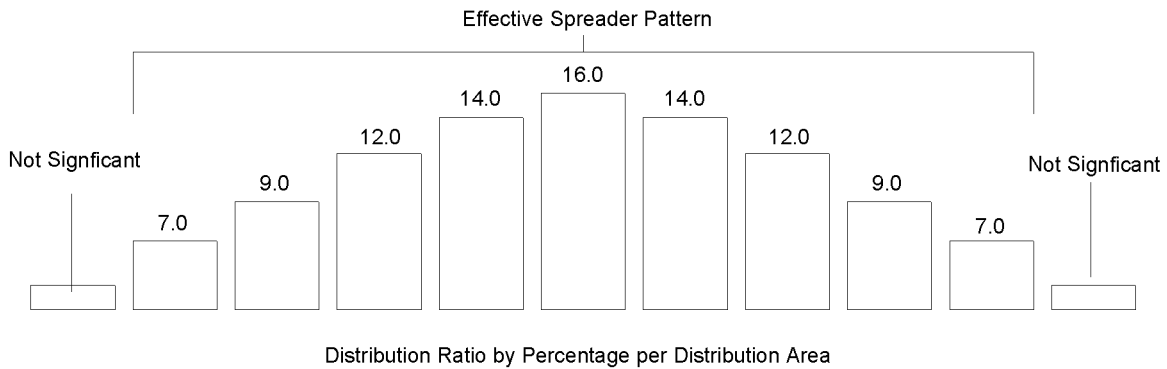

Figure 12. Spreader Material Distribution Ratio
- (6) Check the distribution pattern.
- (a) Place 11 calibration pans in a line on two-foot centers on a paved area such as a parking lot (refer to Figure 12).
NOTE: The distribution pattern shown in Figure 12 and Table 3 represents the ideal pattern, which may not be reproducible in the field.